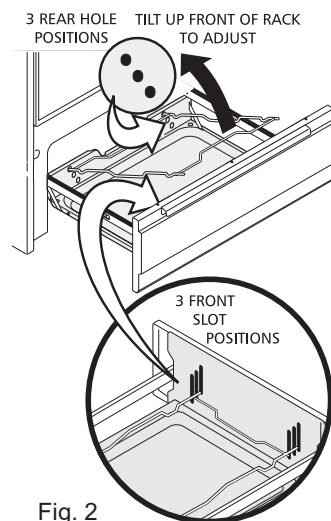

Fig. 2
4. Position rack by tilting front of rack and pulling rack out from locating holes in rear of broiler drawer. Reposition back of rack in the desired locating holds and allow front of rack to slide down into the corresponding slots in front of broiler drawer (See Fig. 2).
2. Remove 2 screws located on the inside of the oven door liner (See **A** Fig. 2)
3. Insert the 2 screws into the door hinge holes located on the side of the hinge arm, one into each hinge (See **B** Fig. 2).
5. Reinstall the 2 screws into the door liner (See **C** Fig. 2).